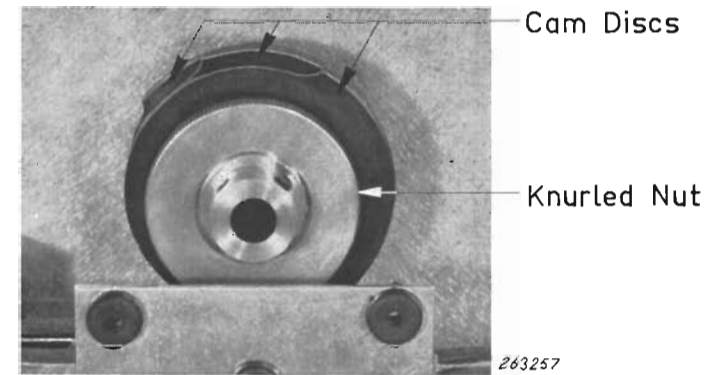

Fig.4.5. The adjustable cams
The initial and/or the final part of the frequency range can be blocked by means of the cams mounted on the spindle of the capacitor (Fig. 4.5.). With full use of the cams the frequency range can be reduced to approximately one octave in any part of the frequency range.
3. Loosen knurled lock-nut (Fig.4.5.) sufficiently for the outer and inner cams to be moved relative to the one in the middle.